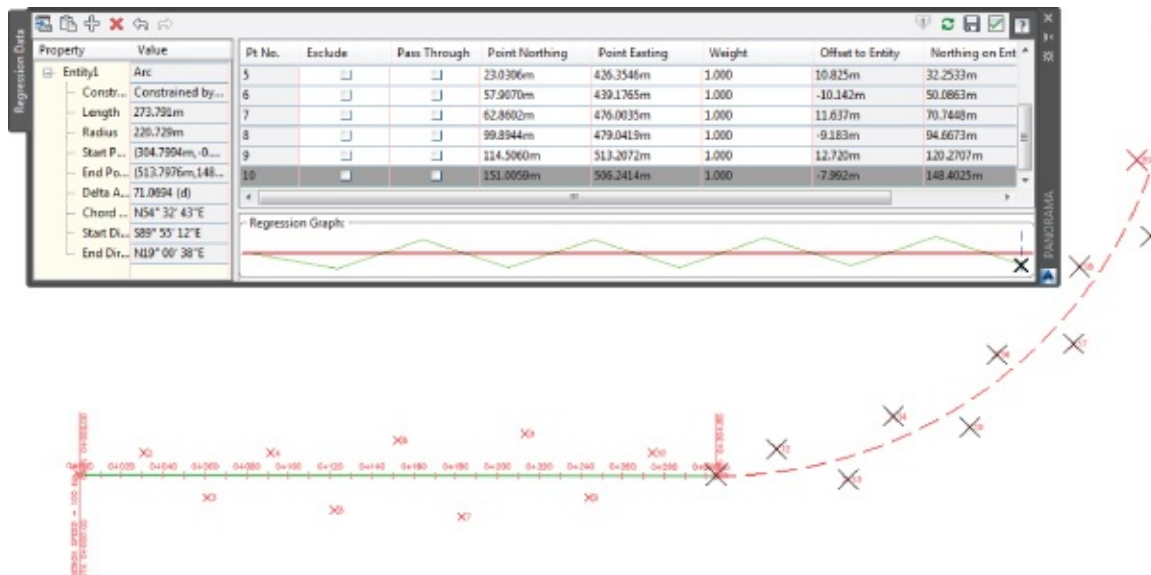

Figure 6.18 The floating curve temporary layout and Regression Data tab of Panorama
- Select the Curve Point Group and click OK. You will notice the curve being created and the Regression Data tab appearing again, this time for the curve. (See Figure 6.18.)